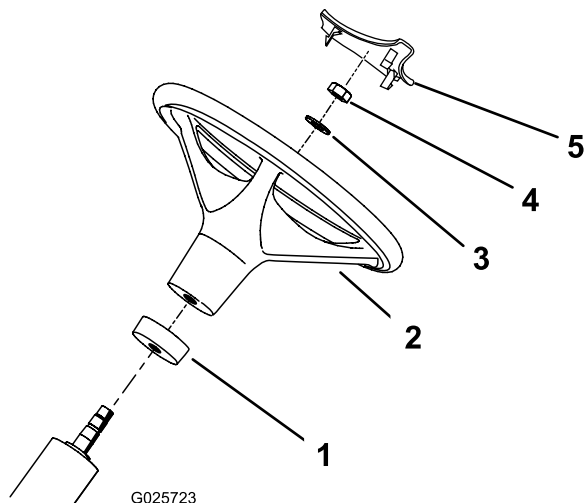

Figure 2
2. Slide the foam collar, small end first, onto the steering shaft (Figure 2).
3. Slide the steering wheel onto the steering shaft (Figure 2).
4. Secure the steering wheel to the steering shaft with a washer and a locknut (Figure 2).
6. Press the steering-wheel cover into position on the steering wheel (Figure 2).